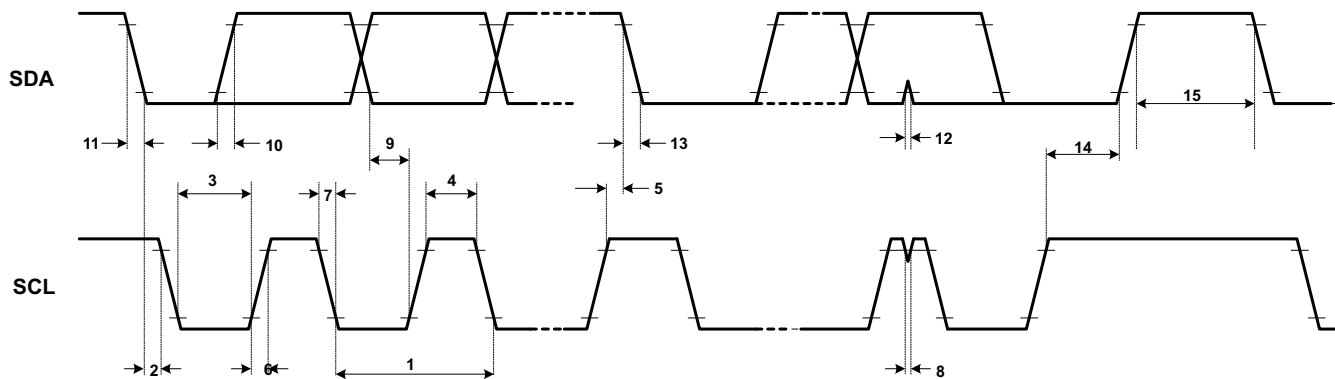

Figure 3. Serial Communication AC Timing (I2C Interface)
I2C INTERFACE SWITCHING CHARACTERISTICS^{(1) (2)}VBAT = VBATP = 6 V to 18 V, T_J = -40°C to 150°C (unless otherwise noted) (see Figure 3)